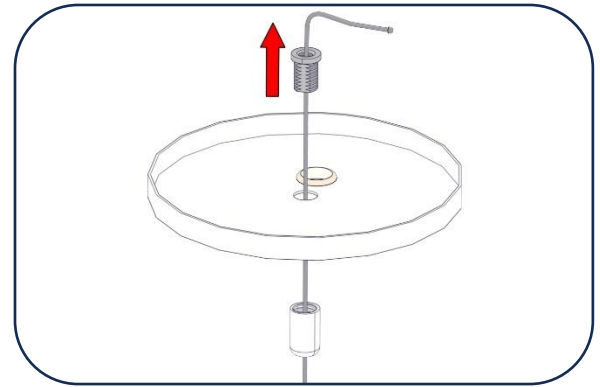

Figure 9
20. Pull the **Aircraft Cable** attached to Side A of the starter fixture through the center hole of **Canopy A**. [Figure 9]